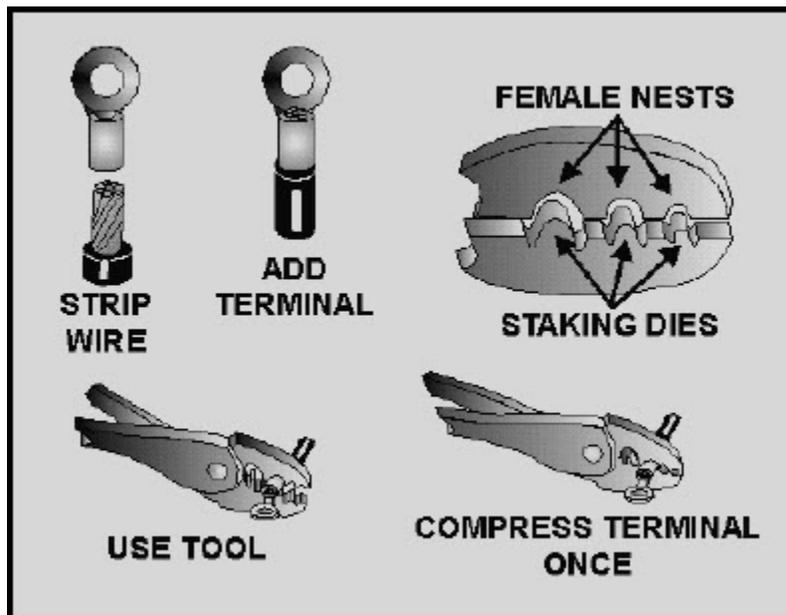

Figure 2-12 Crimping small copper uninsulated terminals
There are several different types of crimping tools used with copper terminals. However, you will normally be concerned only with wire sizes AWG (American Wire Gauge) 10 or smaller. For wire of these sizes, a small plier-type crimper is used to crimp on uninsulated terminals, as shown in figure 2-12. The small plier-type crimper has several sizes of notches for the different size terminals. Care should be used to select the correct size crimping tool for the particular terminal.
3. Center the terminal barrel in the female nest of the plier jaws as shown in figure 2-12 so that the indentation formed by the staking die will be in the center of the barrel. Crimp until the pliers reach their stop or limit. This is necessary for a good mechanical and electrical connection.